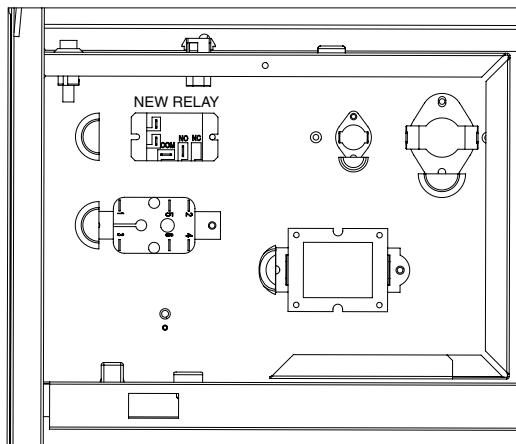

Figure 1. Burner Isolation Kit
2. Mount the new relay into the electrical box using two screws that are provided in the kit. See Figure 1.
5. Connect the two wires (from step 4) to the coil terminals of the relay. Connect the two 20" wires (provided in the kit) to the **NO** and **COM** relay terminals. See Figure 1.